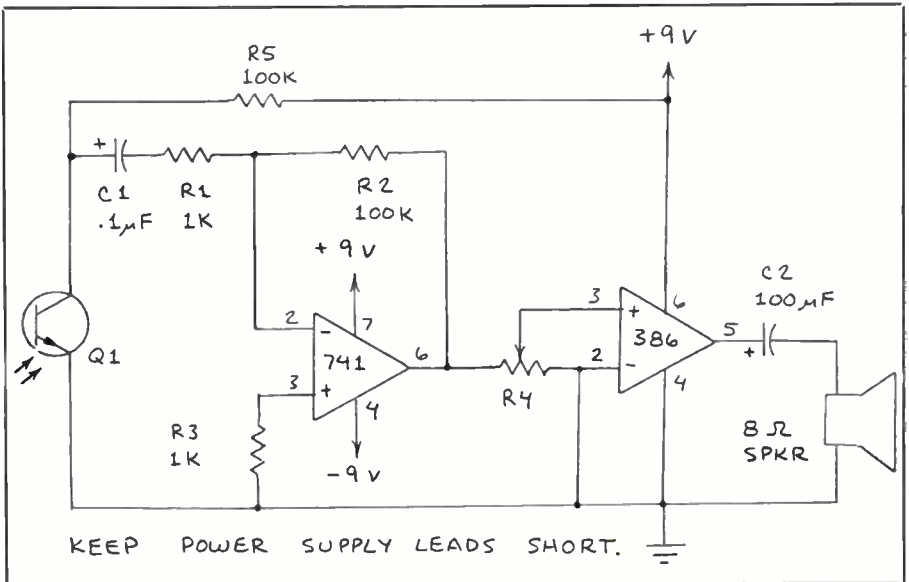

Fig. 4. A simple lightwave receiver circuit.
Figure 4(A) is the schematic diagram of the circuit for a simple push-button-switch trigger circuit. Pull-up resistor  $R2$  is connected between pin 2 and  $V+$ . If normally-open push-button switch  $S1$  is open, the TRIGGER input is held at a potential very close to  $V+$ . But when  $S1$  is closed, pin 2 is brought to ground potential. Because pin 2 is now at a potential that is less than  $(V+)/3$ , the 555 MMV triggers. This circuit can be used for contact debouncing in digital circuits.
A circuit for inverting the trigger pulse applied to the 555 is shown in Fig. 4(B). Here, a common npn bipolar transistor, such as the 2N2222, is used in the common-emitter mode to invert the pulse. Again, a pull-up resistor is used to keep pin 2 at  $V+$  when the transistor is turned off. However, when the positive-polarity trigger pulse is received at the base of  $Q1$ , the transistor saturates, which
Fig. 4. Examples of (A) simple push-button switch triggering for the 555 timer and (B) transistor inverter that permits positive-going pulses to trigger the 555.
You can make a lightwave receiver to observe this phenomenon by connecting a silicon solar cell to the input of a battery-powered amplifier. Alternatively, you can assemble the basic lightwave receiver circuit shown in Fig. 4. In this circuit, *Q1* is any npn phototransistor. Do not place your ears close to the speaker since it is capable of emitting very loud sound levels.
Figure 5 shows the circuitry for an ultra-simple transformer lamp modulator based on circuits published nearly 50 years ago. You can assemble this circuit in just minutes. The simple receiver in Fig. 4 will receive the signal from this circuit. For initial tests, you can use a radio as an audio source or replace the radio with a small amplifier to transmit your voice.